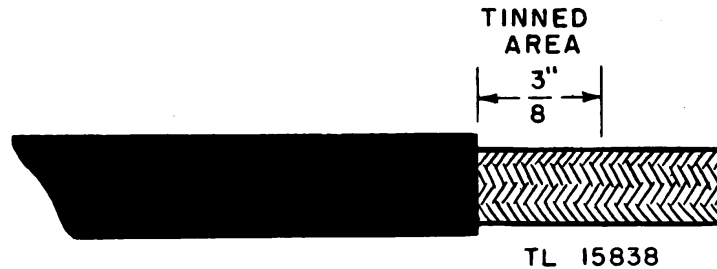

Figure 13. Coaxial cable, with braid tinned.
- d. Tin the braided shield lightly for $\frac{3}{8}$ inch from the end of the vinyl jacket (fig. 13). The solder keeps the copper shield from spreading, but any excess solder will prevent assembly of the plug in paragraph 18g(2).